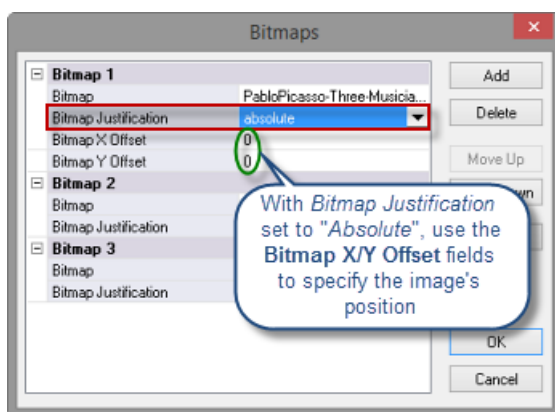

FIG. 26 Bitmaps dialog
1. With a Page, Popup page, Sub-Page or Button state selected, click the browse button (...) in the Bitmaps (State) property to open the *Bitmaps* dialog (FIG. 26).
The default values for Absolute Justification are X=0, Y=0. These values will position the selected bitmap in the upper-left corner of the Page, Popup page or Button (the upper left corner of the bitmap is placed at pixel position 0,0 of the element - see FIG. 26):